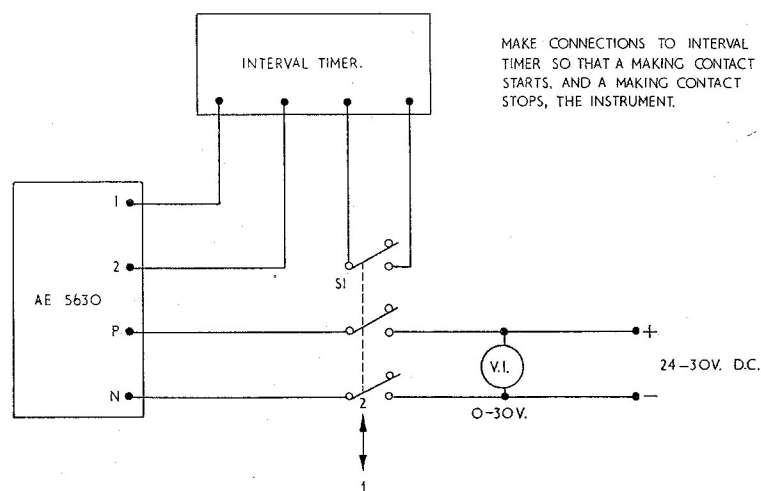

Fig. 4. Functional test circuit
11. (1) Connect unit to functional test circuit shown in fig. 4.
(4) Connect unit to function test circuit shown in fig. 4.
(5) Select switch S1 to position 2 and adjust supply so that V1 indicates 27 ± 0 volts.
(6) Select switch S1 to position 1 and observe time delay as indicated on the interval timer. Replace switch S1 to position 2 and reset timers.
(7) If the time delay is higher or lower than the specified value for the unit adjust the potentiometers slowly in a clockwise or counter-clockwise rotation respectively, and repeat procedure from sub-paragraph (6) until the specified time delay is obtained.